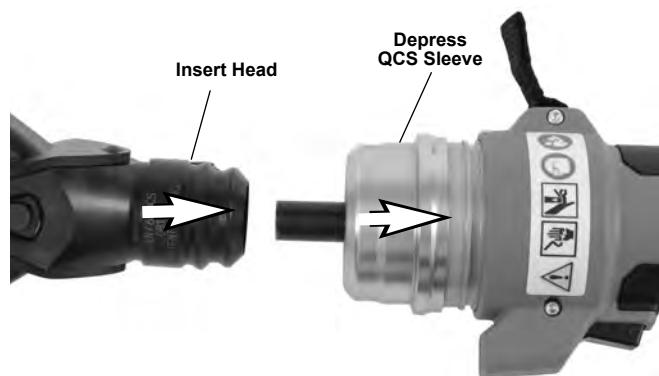

Figure 6 – Installing an interchangeable head in the Electrical Tool
5. Remove the battery from the tool. Depress the QCS sleeve on the electrical tool and remove/insert the appropriate interchangeable head. Release the sleeve to retain the interchangeable head (*Figure 6*). Confirm that the correct interchangeable head for the application is fully inserted and locked into the tool before turning ON. Do not operate without an interchangeable head or head inserts installed – this can damage the electrical tool. (If interchangeable head will not lock into QCS, ensure ram is fully retracted by pressing the pressure release button).